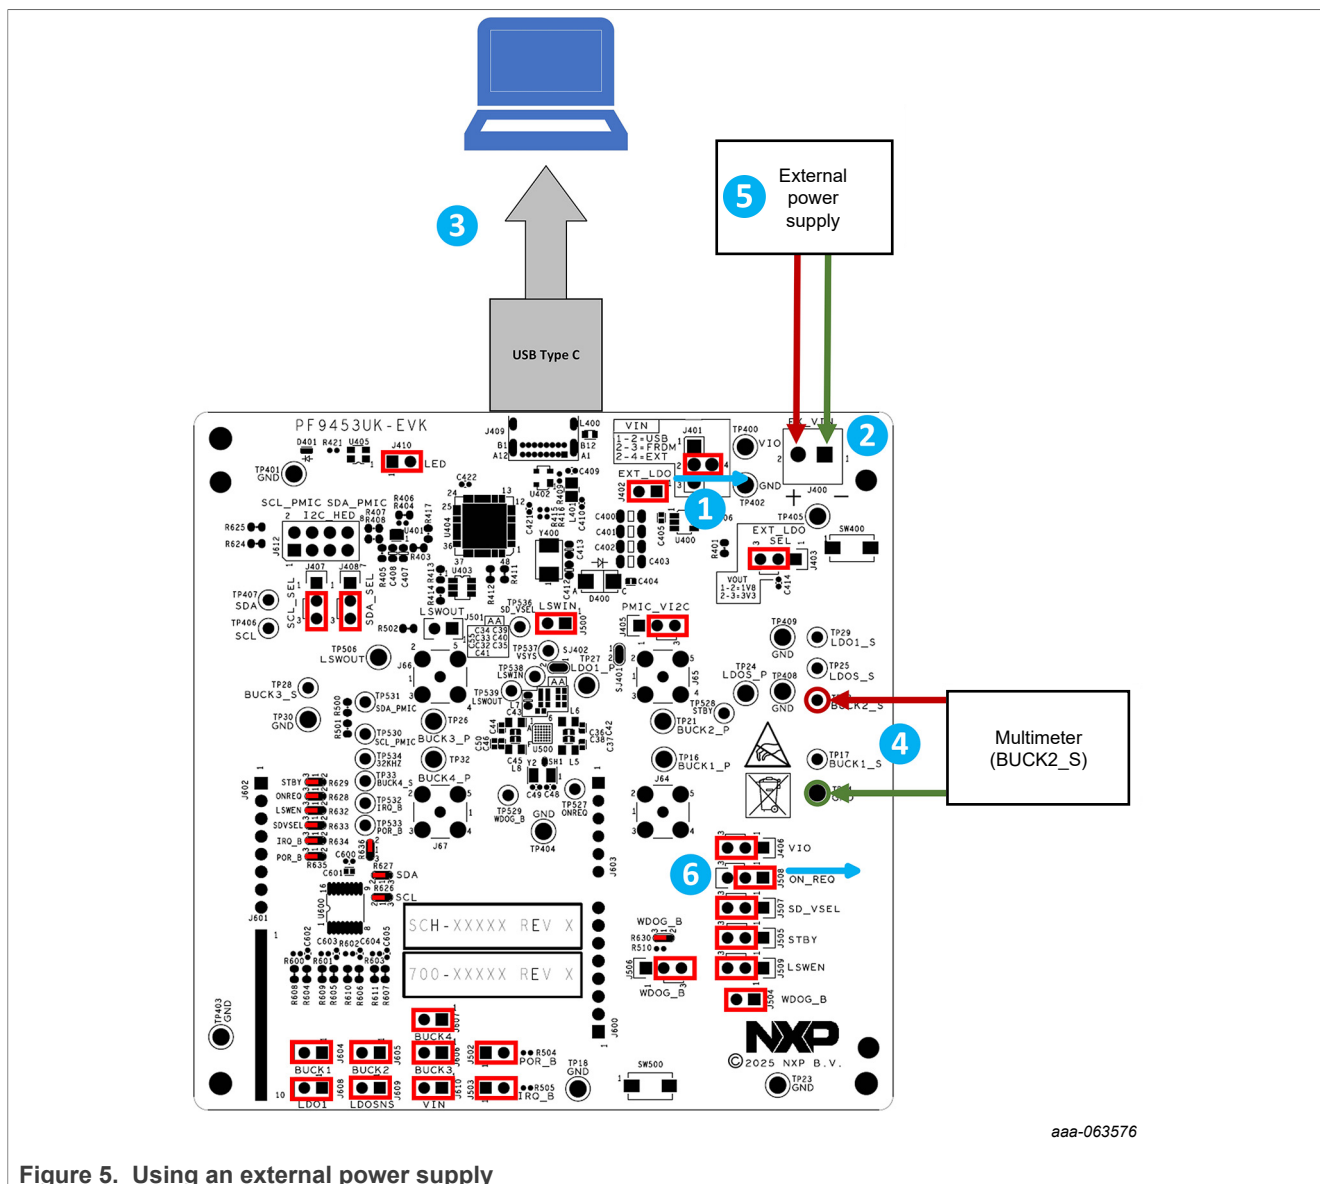

Figure 5. Using an external power supply
Figure 5 shows how to connect an external power supply in the PF9453UK-EVK.
1. Move the J401 jumper to position J401 (2 to 4). Input the PMIC voltage from an external power supply, see Figure 5. Step 1 is represented by the number 1.
2. Connect the external power supply to the J400 connector: positive terminal to J400 (pin 2), negative terminal J400 (pin 1) see Figure 5, circle with number 2. The external power supply can also be connected to the following tests points: positive terminal to TP400 (VPWR) and negative terminal to TP402 (GND).
3. Connect the USB-Type C to the PF9453UK-EVK, see Figure 5, circle with number 3.
4. Connect the positive terminal of the multimeter to TP22 (BUCK2\_S) test point and the negative terminal of the multimeter to TP34 (GND) test point. See Figure 5, circle with number 4.
5. Configure the power supply to 5.0 V, 1 A, and turn it on. See that the green LED D401 is ON, see the Figure 5, circle with number 5.
6. Move the J508 Jumper to position J508 (1 to 2), see Figure 5, circle with number 6. (This turns on the PMIC by setting the high state the PMIC\_ON\_REQ pin.)